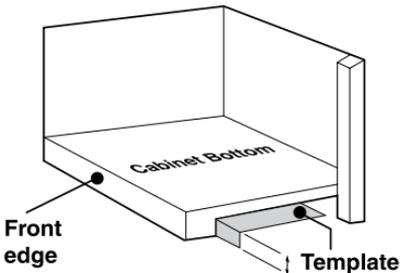

Figure 2
- Tape Mounting Template to the underside of the cabinet with the folded portion of the Mounting Template flush up against the cabinet overhang (see Figure 2). Go to STEP 2.